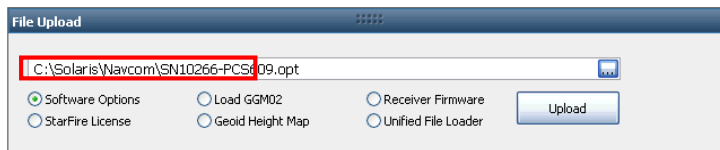

Figure 15: Software Options Upload
33. Select the Software Options file. The path to the file appears in the upload field (see Figure 15).